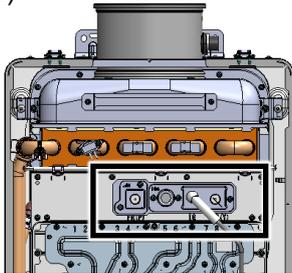

Figure 2
6. Remove the flame rod and ignitor wire (Figure 2).
- Reconnect the flame rod and ignitor wire (Figure 2).